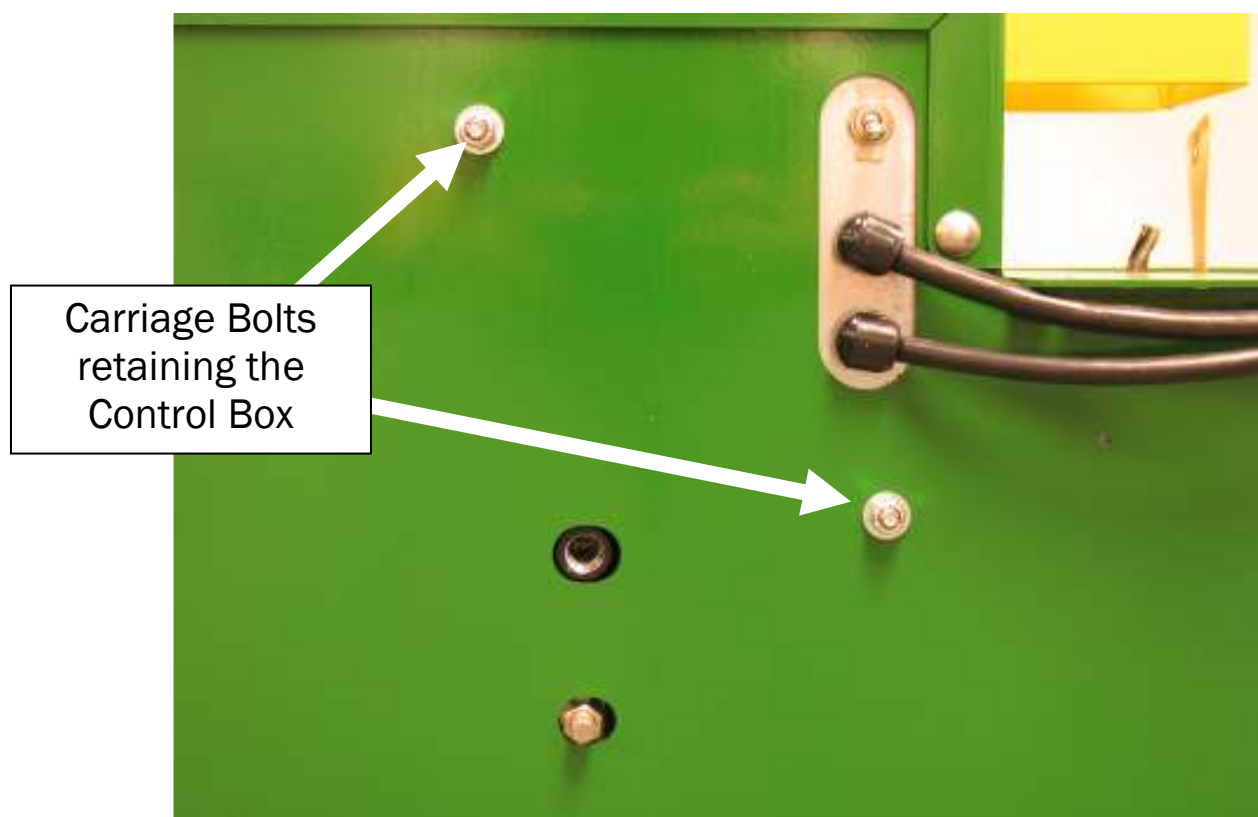

Figure 33
3. Remove the two carriage bolts that hold the Control Box to the machine and pull the box partially out the rear door. **See fig. 33.**